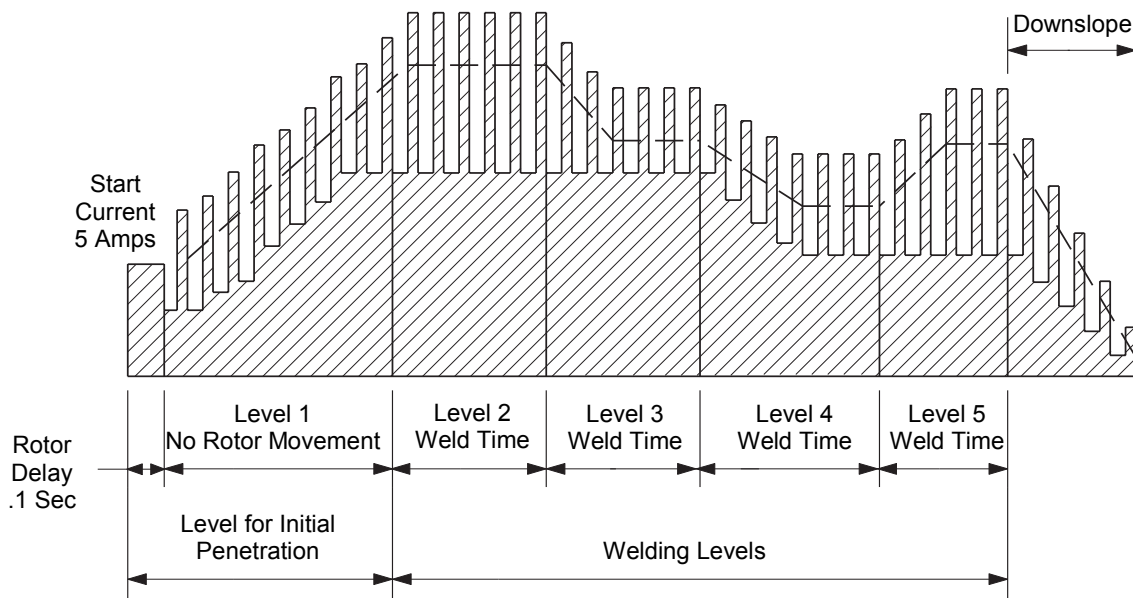

Figure 88
2. The weld must penetrate completely before the rotor begins to move, see Figure 88. After the basic weld program is developed, duplicate level one by using PROG/MODIFY/INSERT LEVEL. The following is accomplished in PROG/MODIFY/EDIT ITEM: